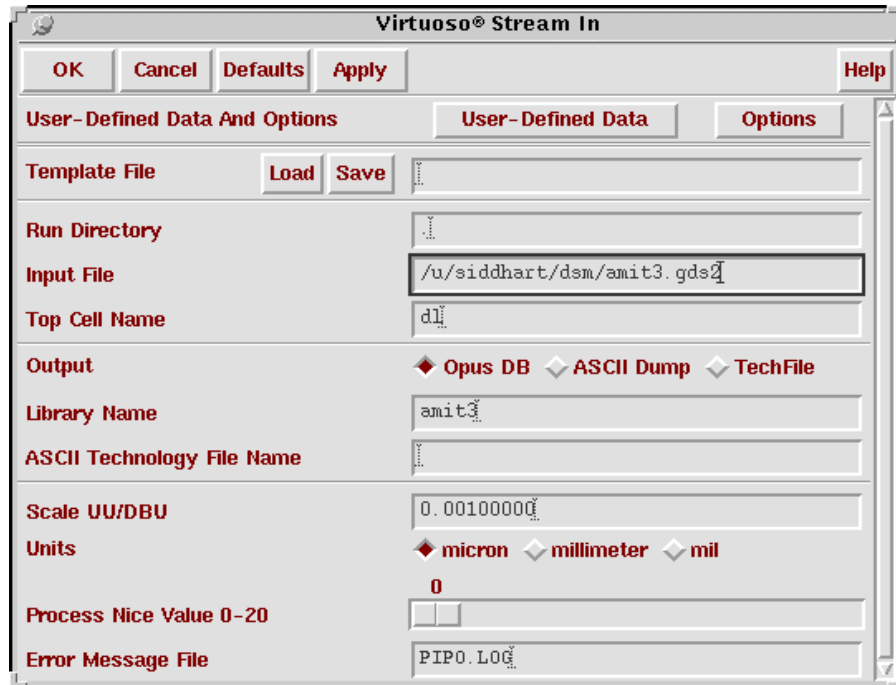
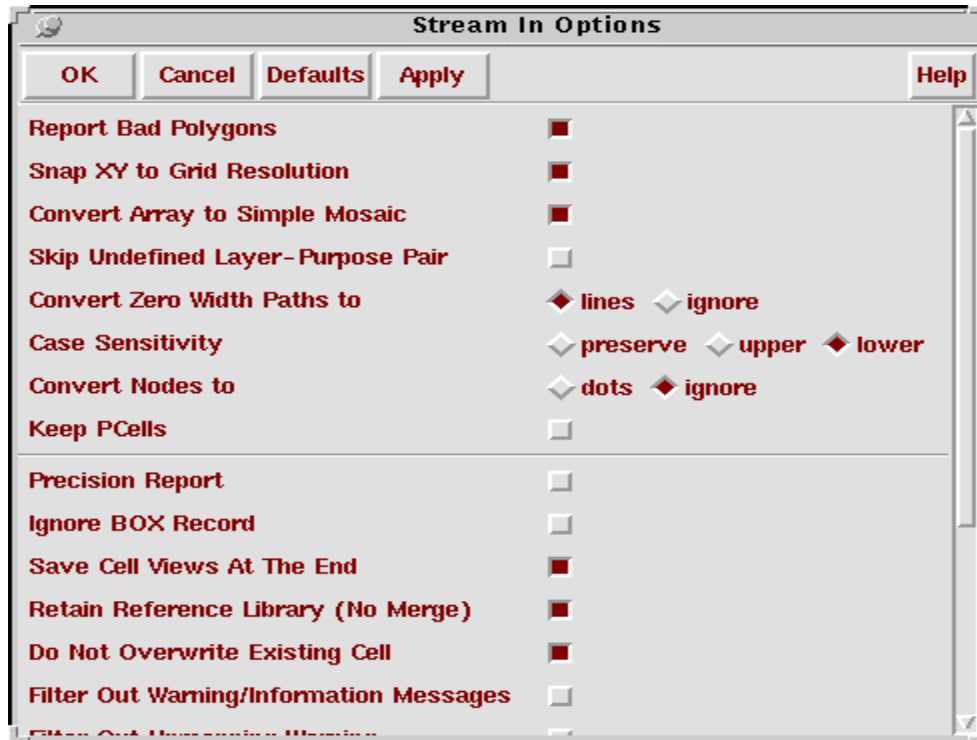

Fig 26: Virtuoso Stream In
Fig 27: Stream In Options
- The “Virtuoso Stream In” window opens as shown in Fig 26. In Fig 26 write the path of the .gds2 file created in silicon ensemble in the **Input File** text box.
- In Fig 26 click **Options** and the “Stream In Options” form opens as shown in Fig 27. In Fig 27 select **Retain Reference Library (No Merge)** , **Snap XY To Grid Resolution** and click **OK**.
- In Fig 26 click **OK**.